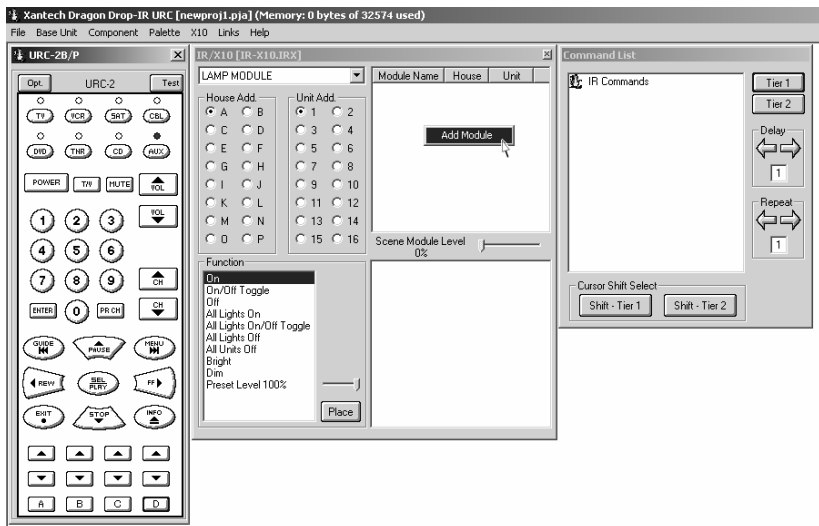

Figure 3 – Creating X10 Modules
2. Type a filename, such as joneshmx10 and click Save. An IR-X10 programming panel appears with the filename in the title bar. See **Figure 3**).
5. Right-Click in the empty space to the right of the Unit Add. selection area under the Module Name List Box. A pop-up button should appear labeled "Add Module". Left-click on this button. This adds your first module to the list (e.g., LAMP MODULE A 1, etc.). (See **Figure 3 - Creating X10 Modules**)